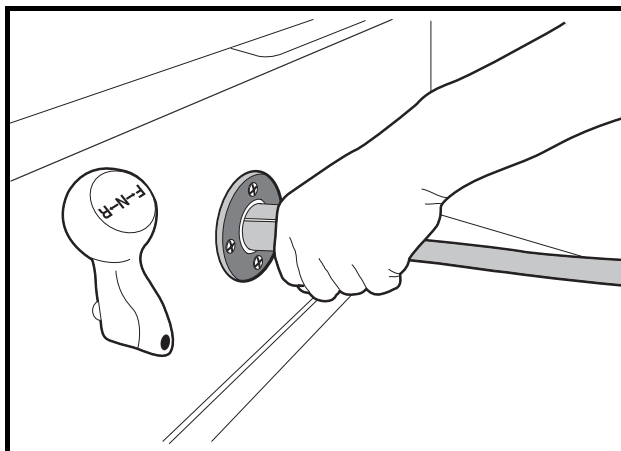
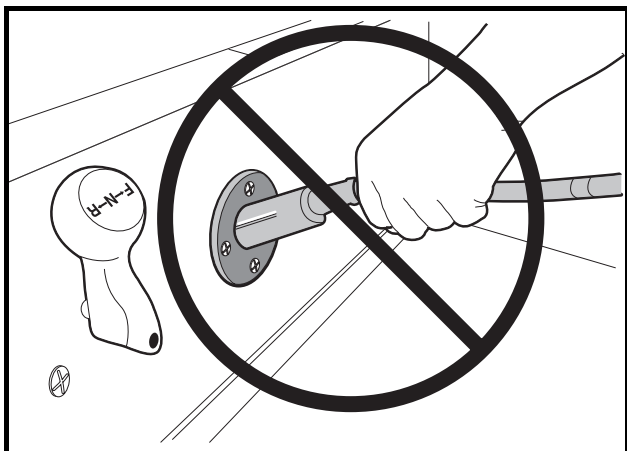

Figure 26 Correct Insertion of Charger DC Plug
Figure 27 Incorrect Insertion of Charger DC Plug
- When using a stationary charger, do not pull on the DC cord (Figure 27, Page 50). Do not twist, rock, or bend the plug. To disconnect the plug from the receptacle, grasp the plug, not the cord, and slowly pull it straight out of the receptacle (Figure 26, Page 50).
Insert the charger AC plug into a dedicated AC receptacle that is properly grounded and wired in accordance with the National Electric Code and all local codes and ordinances. Then insert the charger DC plug into the vehicle receptacle. The charger will turn on two to ten seconds later (**Figure 26, Page 50**).